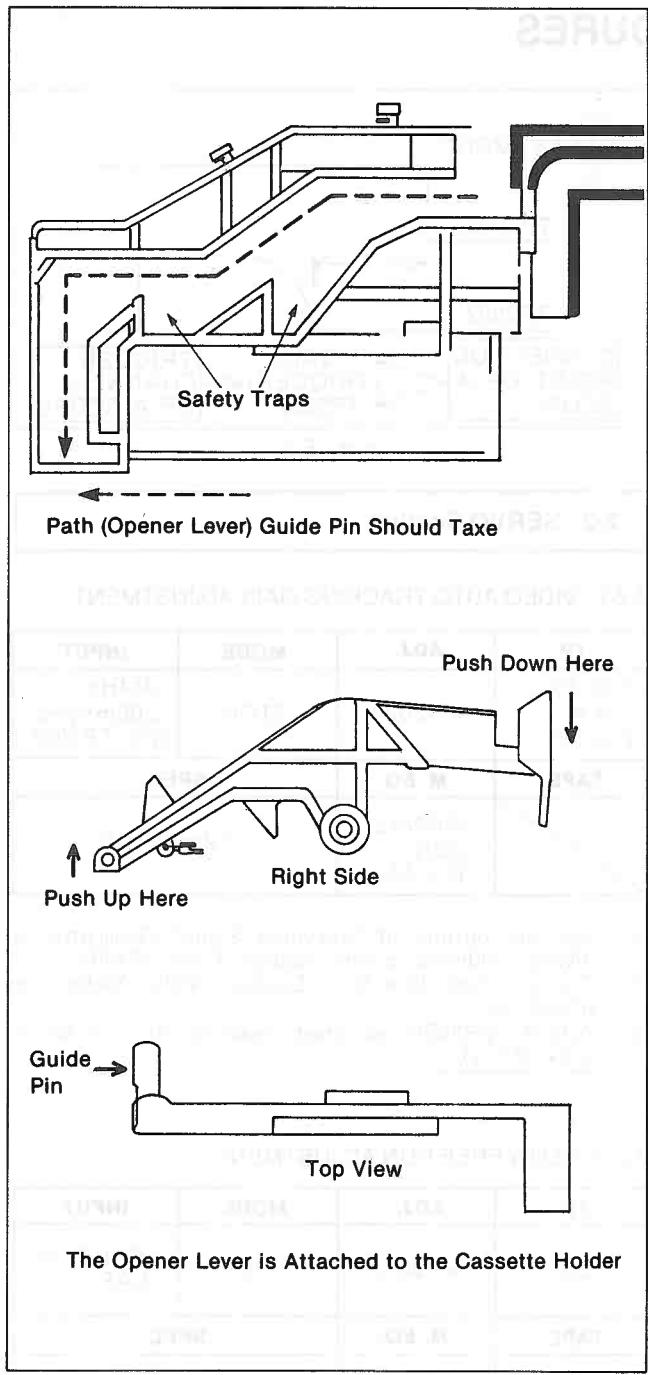

Figure M69 Right Side Plate
*Note: For proper front loading, the guide pin on the opener lever should follow the upper track of the right side panel as shown in Figure M69.